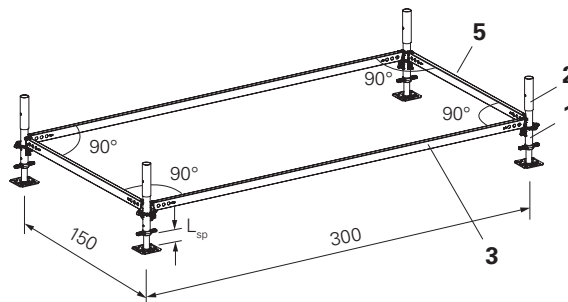

Fig. B3.02
$L_{sp} \leq 20$ cm. (Fig. B3.02)
- All ledgers must be at 90° to one another. (Fig. B3.02)